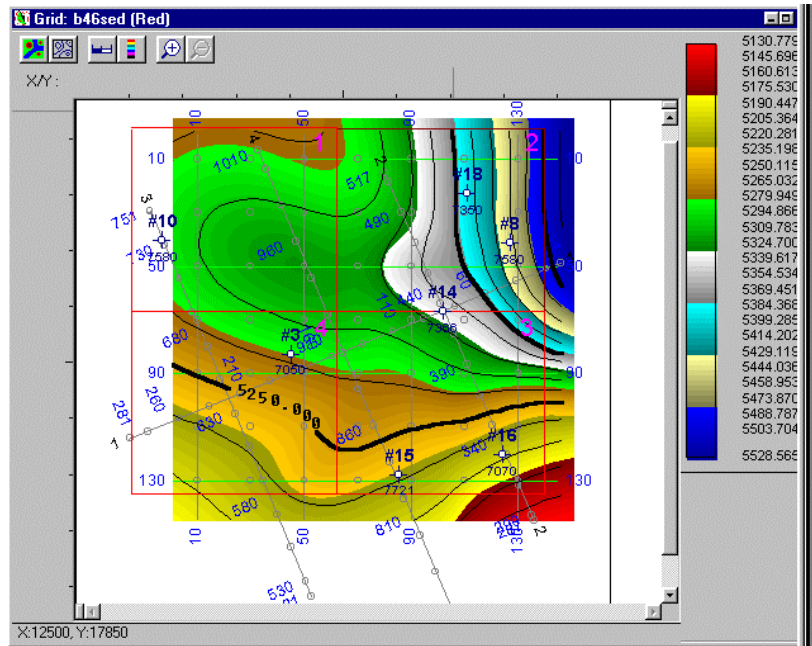

Figure 25: Depths obtained from time-gridding (Figure 22) have been contoured for the B46 horizon.
40. **Contour the depth map and display the amplitudes under the contours.** Remember that you can contour your maps using the **Map Select Contour Overlay** options. Contours of depth to the B46 horizon are shown below (Figure 25).